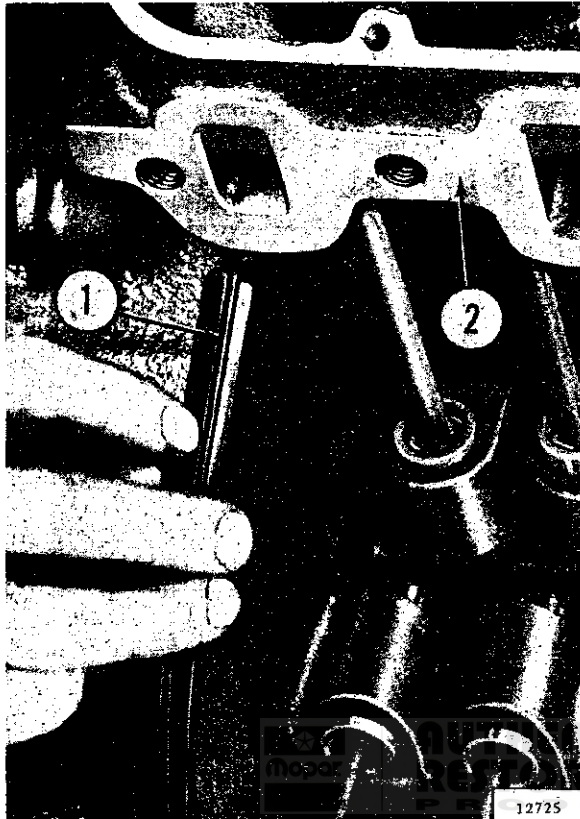

FIG. D1-43—INTAKE MANIFOLD SEAL INSTALLATION
a. Install a new rubber intake manifold seal at front and rear rails of cylinder block. Be sure pointed ends of seals fit snugly against block and cylinder heads. See Fig. D1-43.